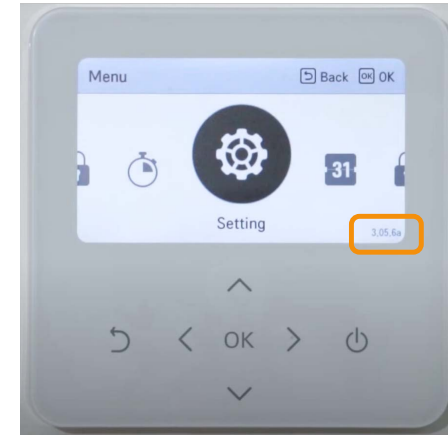

figure 4
2. With the “Setting” icon displayed, make a note of the version number in the lower right corner: this forms the default installer password. In the example opposite, the default password is 3056 (figure 4).